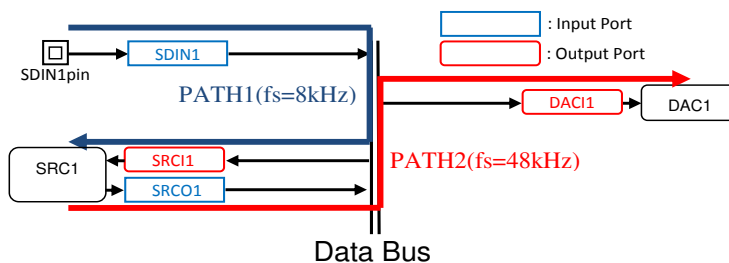

Figure 16. Data Path Example
e.g.) Data Path Example (Figure 16)
In the example of Figure 16,  $2/f_s$  ( $f_s=8\text{kHz}$ ) group delay occurs when inputting the SDIN1 data to SRC via data bus and another  $2/f_s$  ( $f_s=48\text{kHz}$ ) group delay occurs when inputting the SRC1 output data to DAC1 via data bus.
It is an example of outputting data from the DAC1 after converting fs=8kHz input data from the SDIN1 pin to fs=48kHz by SRC (Figure 16). The output port of SRC1 is in auto mode. Therefore the output port inherits the clock sync domain of SDIN1 input port.